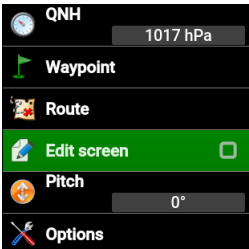

Figure 6.2: Main menu with `Edit screen` option which must be enabled to start editing this screen.
3. Once editing is enabled use the **Pager** button to switch to the screen you want to edit. Then push the knob and select **Edit screen** from the menu, Figure 6.2. Alternatively, long touch on the screen.